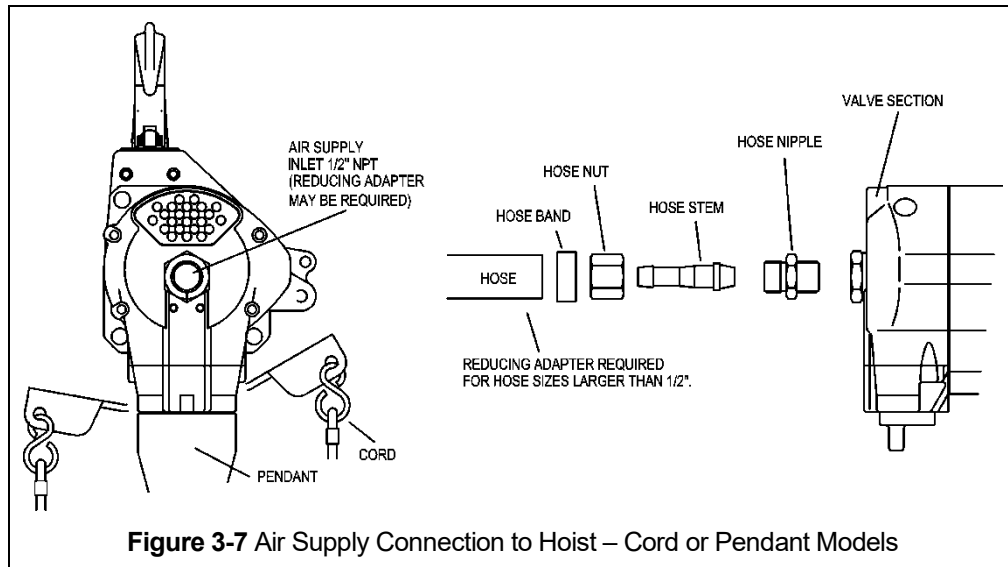

Figure 3-7 Air Supply Connection to Hoist – Cord or Pendant Models
3.9.4 Make connections to air supply; reference Figure 3-7. Use a reducing adapter at the hoist valve section for hose sizes larger than 1/2".